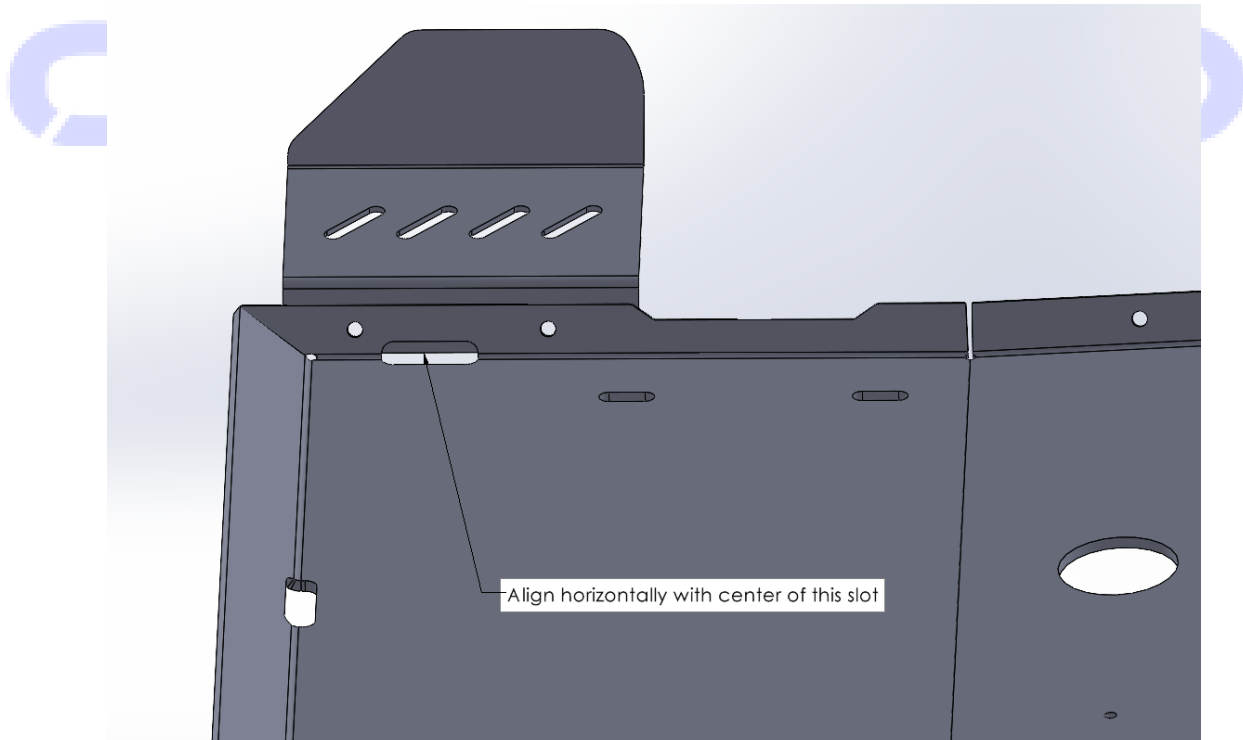

Figure 8
12) Align the bottom of the Rear Driver CAT Guard with the center of the slot at the rear of the transmission skid. (Figure 8) Adjust clamps if necessary.